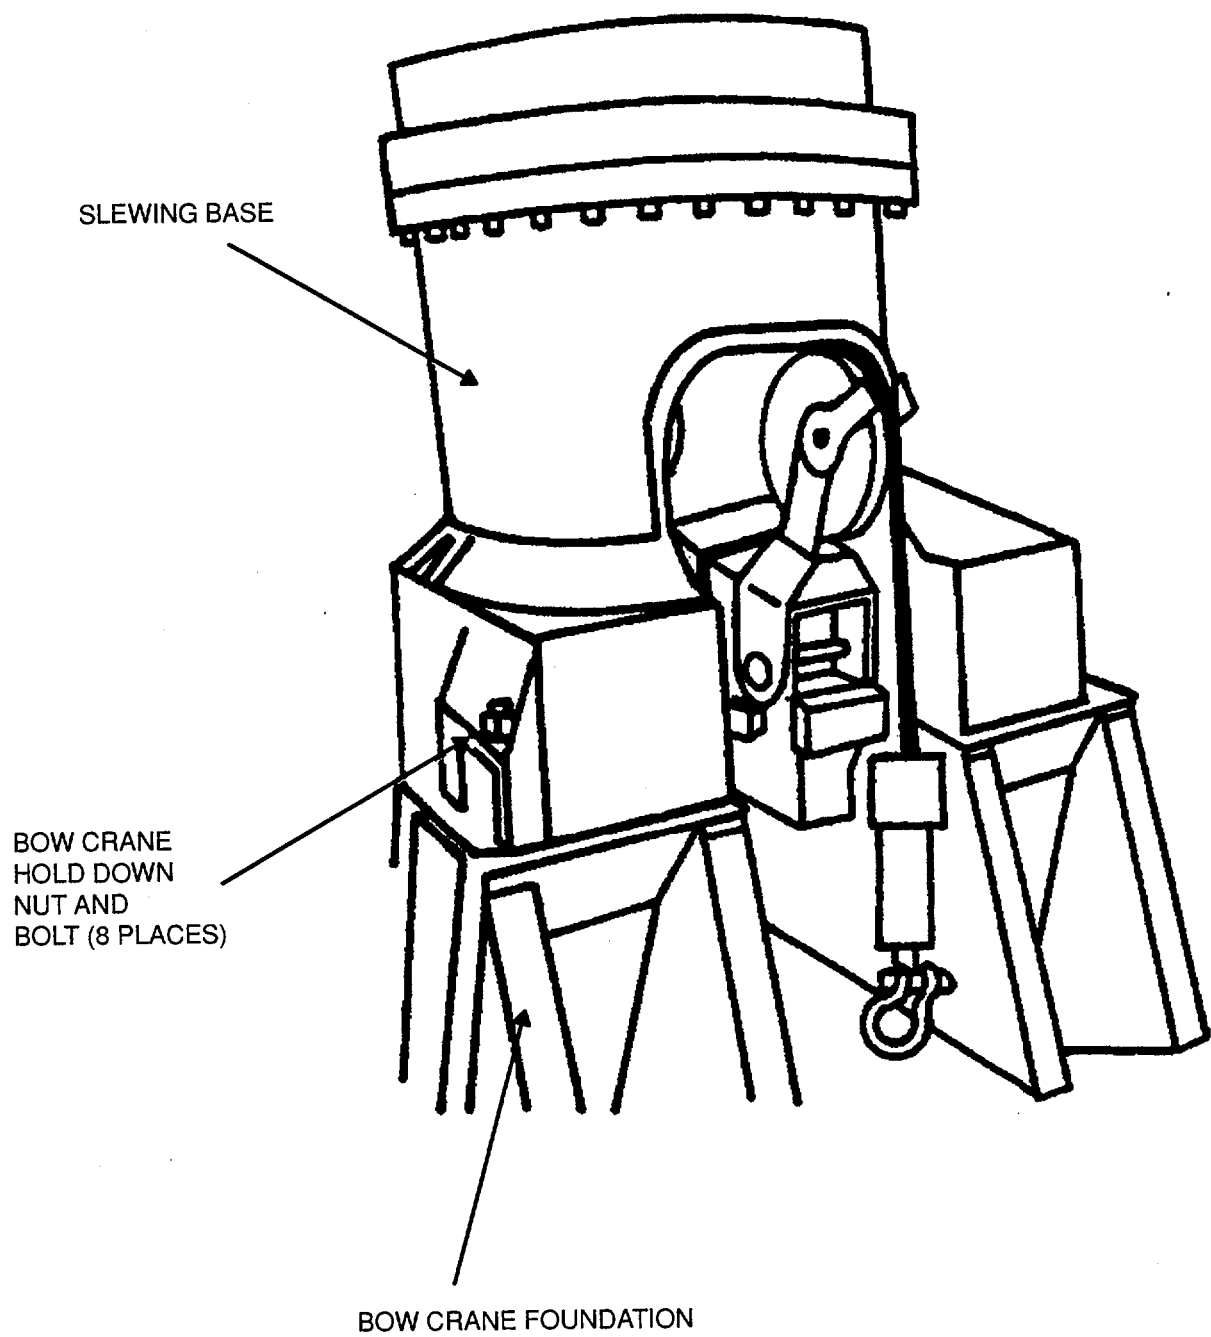

Figure 3-7. Bow Crane Base
- f. On forward weather deck, visually check exposed hardpiping and flexible hydraulic lines for cracks or leaks. Check crane base (Figure 3-7) to ensure that it is secure and make sure forward weatherdeck is clear of any material that might obstruct bow crane movement. Inspect hold-down bolts for damage and check for tightness. If tightening is required, tighten to 350 foot pounds.